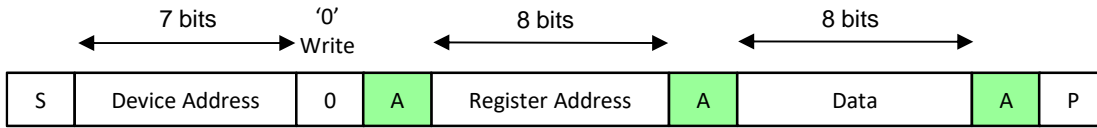

Figure 4. I²C Write – Slave Receiver Mode
1. **Slave Receiver Mode (Write Mode):** Serial data and clock are received through SDA and SCL. After each byte is received an acknowledge bit is transmitted. START and STOP conditions are recognized as the beginning and end of a serial transfer. Address recognition is performed by hardware after reception of the slave address and direction bit (see Figure 4 for Interface). The slave address byte is the first byte received after the master generates the START condition. The slave address byte contains the 7-bit KTD2151 address followed by the direction bit (R/W), which, for a write, is 0. After receiving and decoding the slave address byte the device outputs an acknowledge on the SDA line. After the KTD2151 acknowledges the slave address + write bit, the master transmits a register address to the KTD2151. This sets the register pointer on the KTD2151. The master may then transmit zero or more bytes of data, with the KTD2151 acknowledging each byte received. The address pointer will increment after each data byte is transferred. The master generates a STOP condition to terminate the data write.